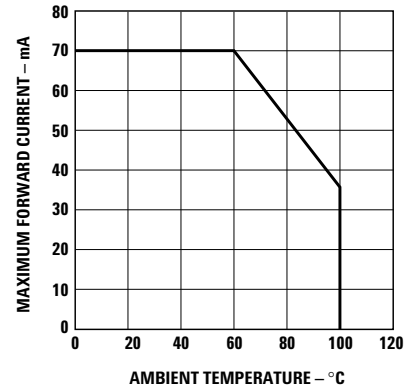

Figure 4. Maximum forward current vs. ambient temperature. Derated based on $T_{MAX} = 125^{\circ}C$, $R_{\theta JA} = 300^{\circ}C/W$.
- Derate linearly as shown in figure 4.